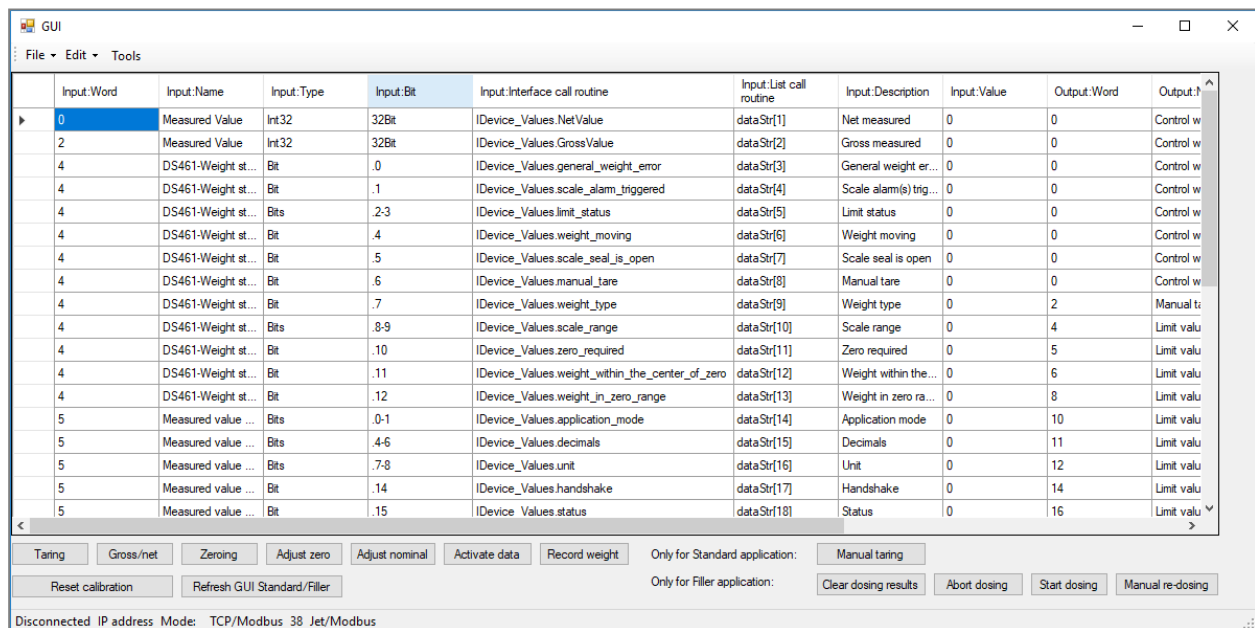

Figure 4.7: GUIplc application window
- The GUIplc application window is shown in Figure 4.7